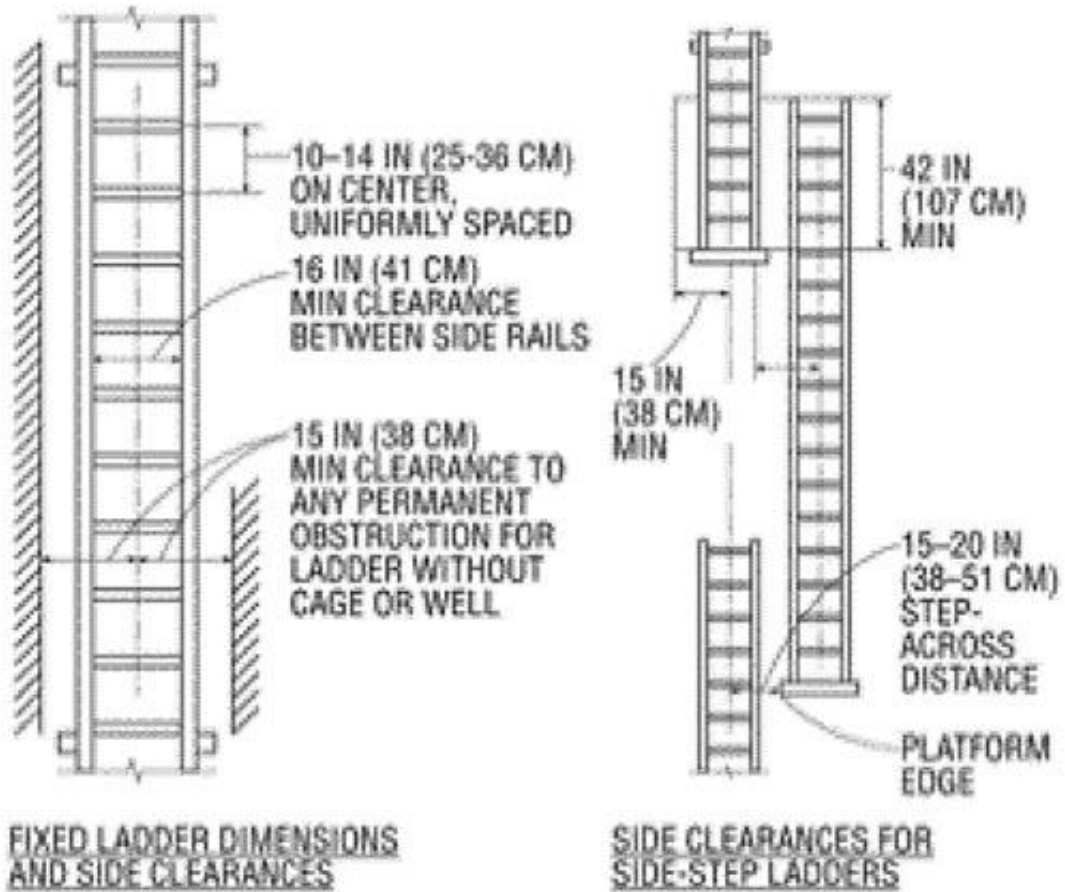

Figure D-2 -- Slide-Step Fixed Ladder Sections.
- For side-step ladders, the side rails, rungs, and steps must be continuous in the extension (see Figure D-2).